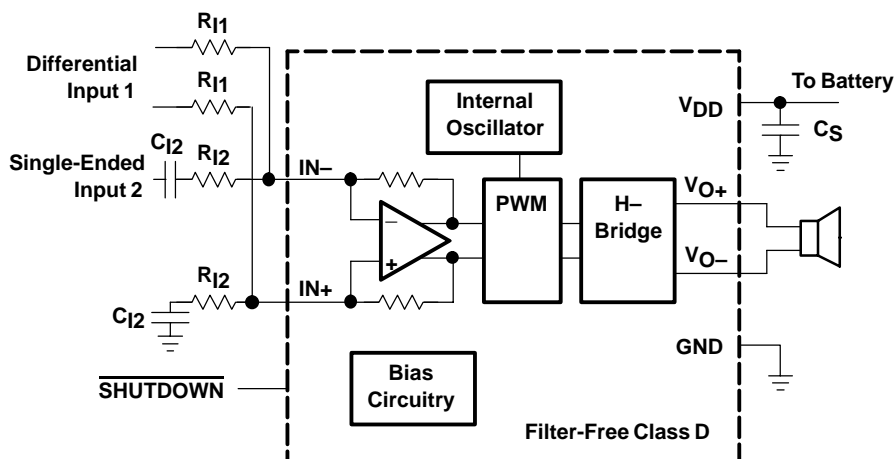

Figure 30. Application Schematic With TPA2005D1 Summing Differential Input and Single-Ended Input Signals
Figure 30 shows how to sum a differential input signal and a single-ended input signal. Ground noise can couple in through IN+ with this method. It is better to use differential inputs. The corner frequency of the single-ended input is set by  $C_{I2}$ , shown in equation (8). To assure that each input is balanced, the single-ended input must be driven by a low-impedance source even if the input is not in use